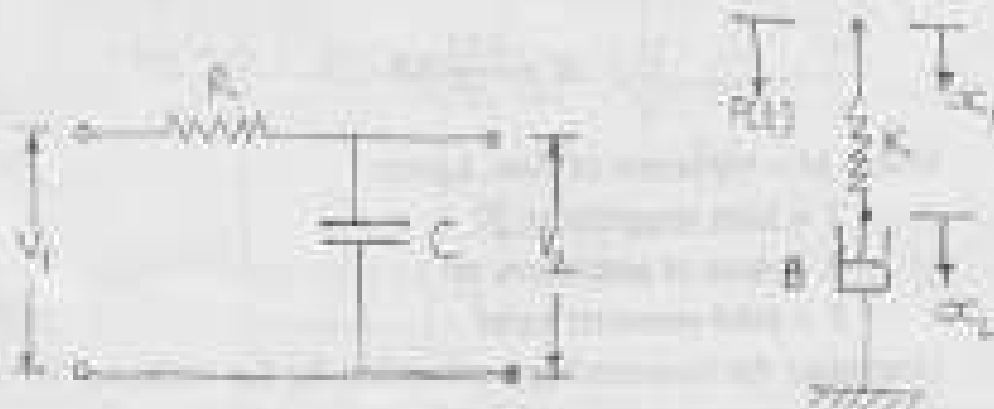

Fig. 1 (b)
- b) Show that the two systems shown in Fig 1(b) are analogous systems, by comparing their transfer functions. [6]
c) Consider Rotational system shown in Fig 1(c)